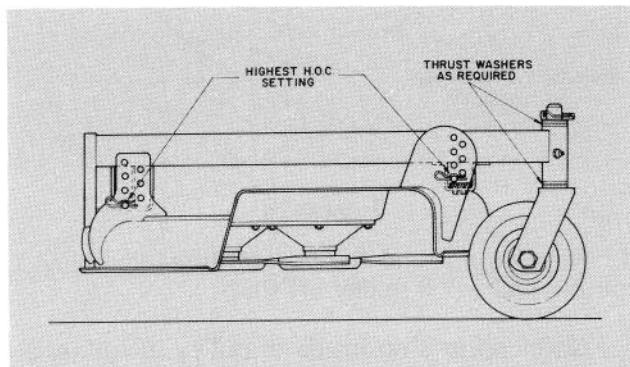

Figure 14
1. Check to make sure front height-of-cut pins are resting properly on frame cushions (Fig. 14).
2. Raise height-of-cut to the $3\frac{1}{2}$ " (89 mm) or 4 in. (102 mm) position (Fig. 14): refer to Adjusting Height-Of-Cut, page 6.
A. Cutting units usually operated at 1 to 2 in. (25 to 51 mm) height-of-cut should have the low side of the cutting unit raised. Remove the lynch pin securing castor wheel on low end (Fig. 14) and remove castor assembly.
B. Transfer one thrust washer from top side of castor shaft to lower side, install castor assembly and compare blade height of all blades; refer to items 3 through 7. Continue adding thrust washers if height still does not meet requirements.
C. If cutting unit is operated at 2 to 4 in. (51 to 102 mm) height-of-cut, lower the high side of cutting unit. Remove lynch pin of castor at high end of unit and remove castor assembly (Fig. 14).
D. Transfer one thrust washer from lower side of castor shaft to top side, install assembly and compare blade height of all blades; refer to items 3 through 7. Repeat procedure if height still does not meet requirements.